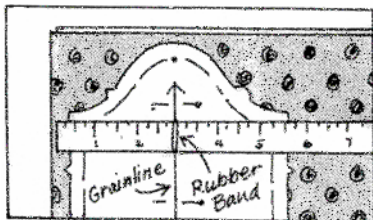

Figure 15
- Place a rubber band on your ruler or sewing gauge for exact measurement when measuring. (Figure 15)